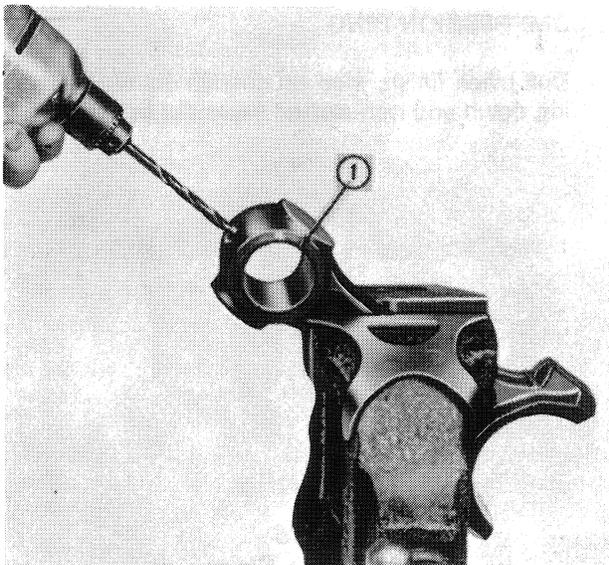

Figure 42
3. Using the hole in the top of the connecting rod as a guide, drill a 1/4 in. (6.350 mm) diameter hole in the bushing, Figure 42.